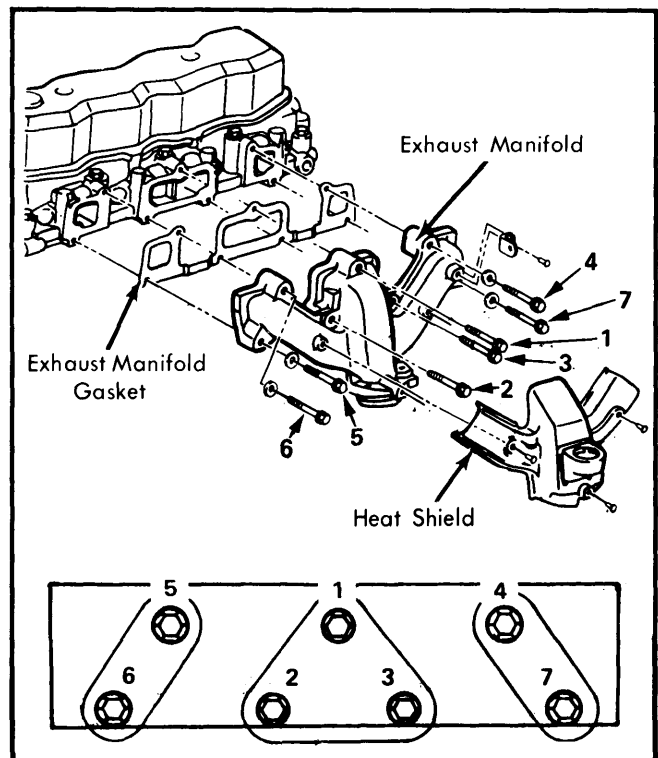

Fig. 3 Exhaust Manifold Tightening Sequence (VIN V & 9)
2) Torque manifold-to-cylinder head bolts in sequence. See Fig. 3. Reverse removal procedure to complete installation.